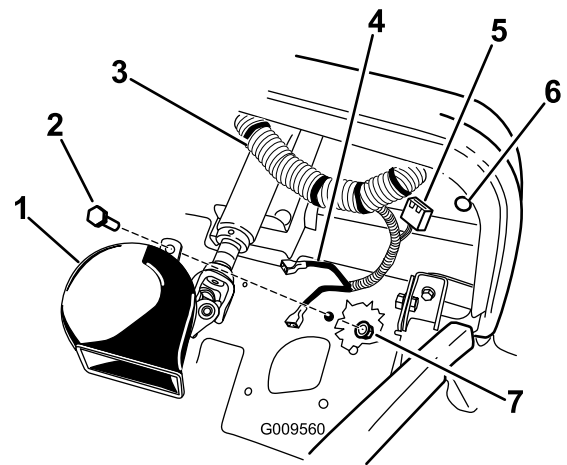

Figure 2
3. Install the horn to the mount plate at the existing hole as shown in (Figure 2). Secure the horn with a flange bolt (5/16 x 3/4 inch) and lock nut (5/16 inch).